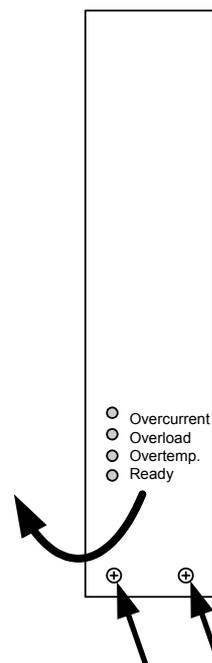

Fig. 6-1 Opening the front cover
- ◆ Remove the two screws at the bottom of the front plate, pull the plate out forwards at the bottom and push to one side (Fig. 6-1). Do not remove the PE conductor connection to the front cover!